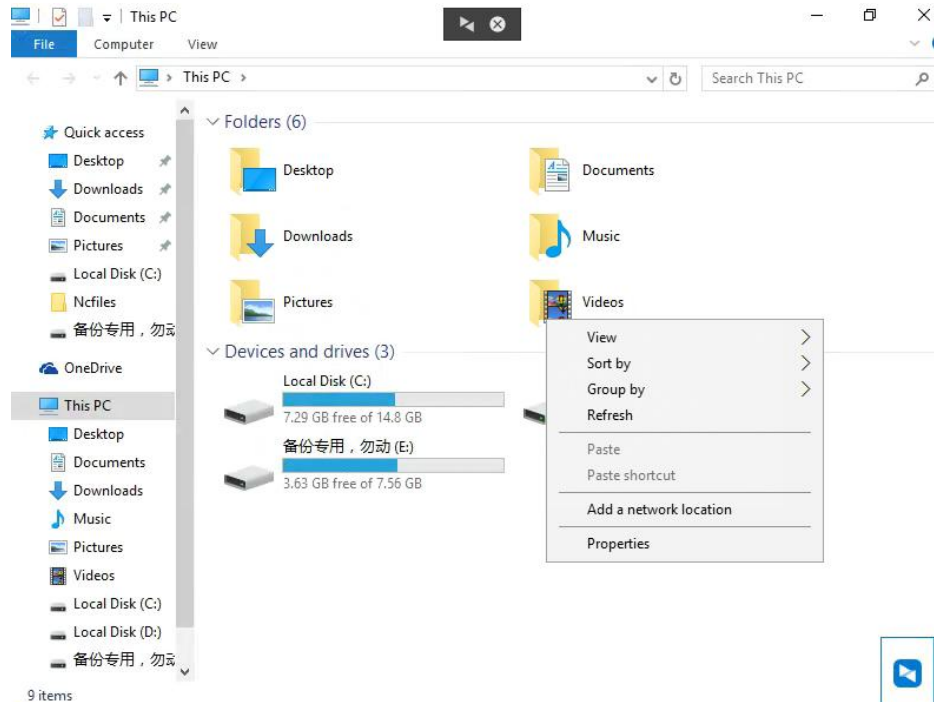

Figure 7.2.6
(6) A menu bar will pop up as shown in Figure 7.2.6; click "Properties."